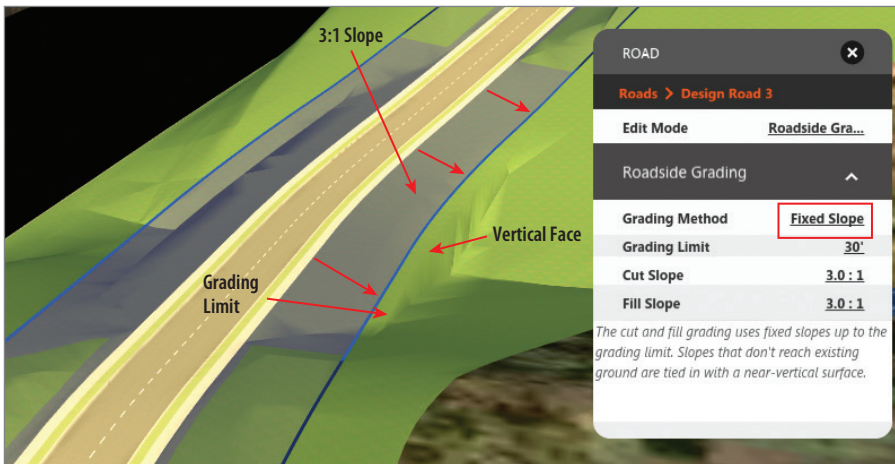

FIGURE 2.27 Fixed Slope grading that is restricted by the Grading Limit setting
8. Change Grading Method to Fixed Slope. If a bridge appears, change Edit Mode to Geometry, click the bridge, and press the Delete key. Then select the road and change Edit Mode back to Roadside Grading. After a pause, the roadside grading will change. Now there is a 3:1 slope projected from the edge of the road until it reaches the grading limit. After that, the embankment slope becomes a vertical face (see Figure 2.27).